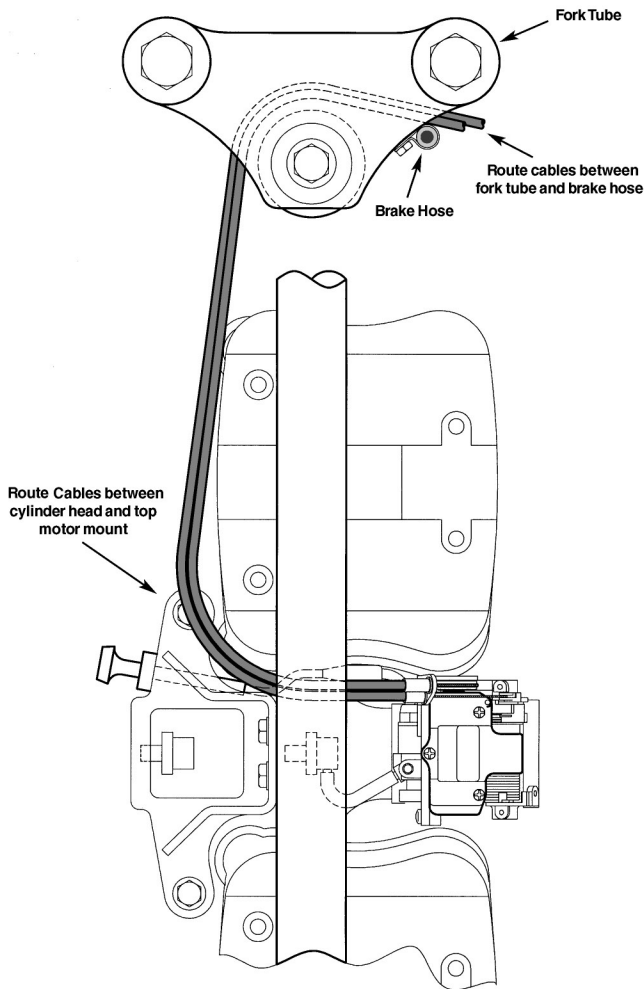

Figure 2: Cable Routing Guide
1. Route the throttle cables with large radius curves and so that they do not interfere with other components. Use Figure 2 as a guide.